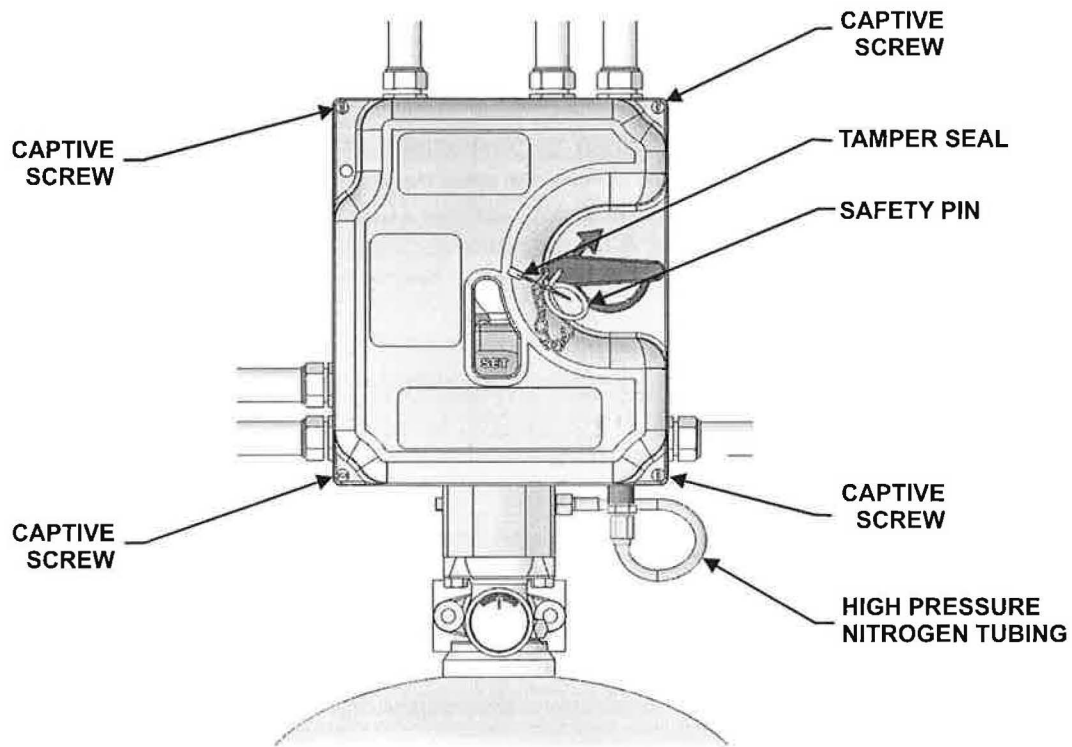

Figure 4-93. Cylinder Mounted UCH Control System
20. Secure the High Pressure Nitrogen Tubing back onto the bottom of the UCH Control System. Ensure that the fit is properly snug to prevent leakage. Refer to Figure 4-93.